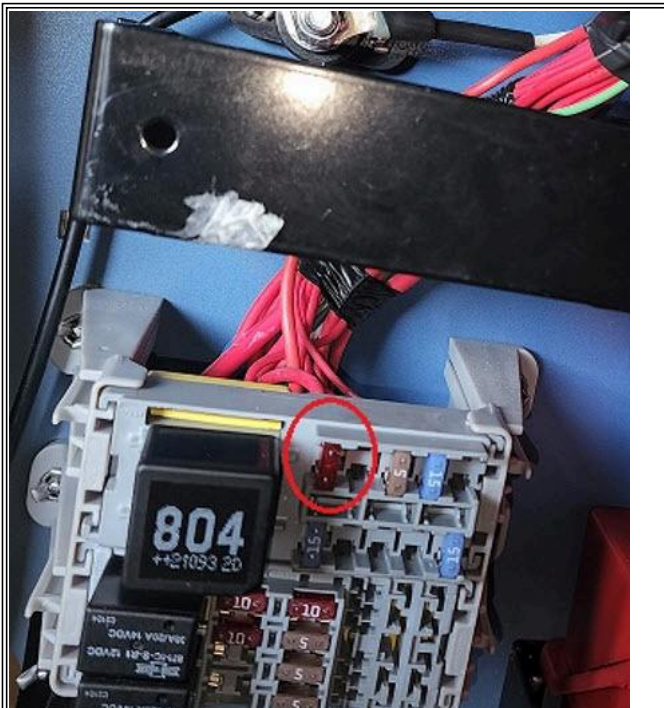

Figure 11: Assembled Sleeper PDM - 10 amp Fuse Installed in H2-E
9.) Reassemble the sleeper PDM assembly, then install a 10 amp mini fuse in PDM location H2-E (Figure 11)